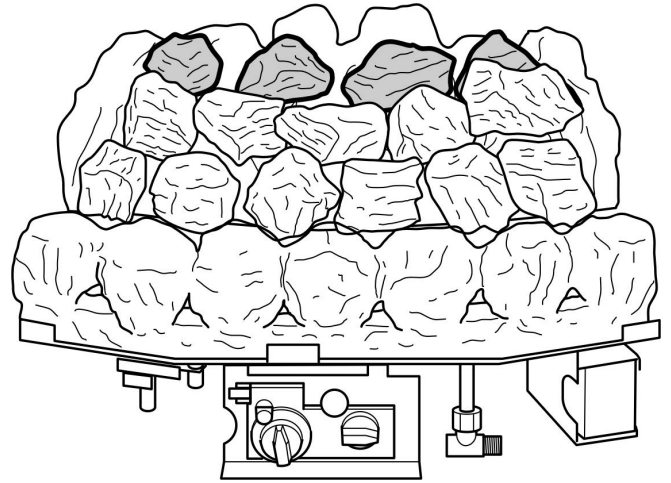

Figure 9.
3. Take four random shaped dress coals and position as shown in figure 9 to make the third row. These dress coals should again overlap the previous row by about 5 - 10 mm. Ensure even spacing to obtain the best flame effect.